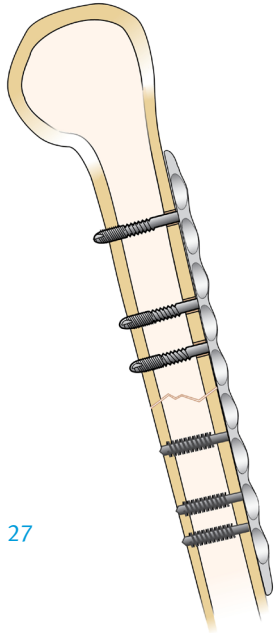

Fig. 27
**WARNING:** A **MINIMUM of three (3)** MotionLoc Screws are required to be placed in the shaft of the bone (Fig. 27).